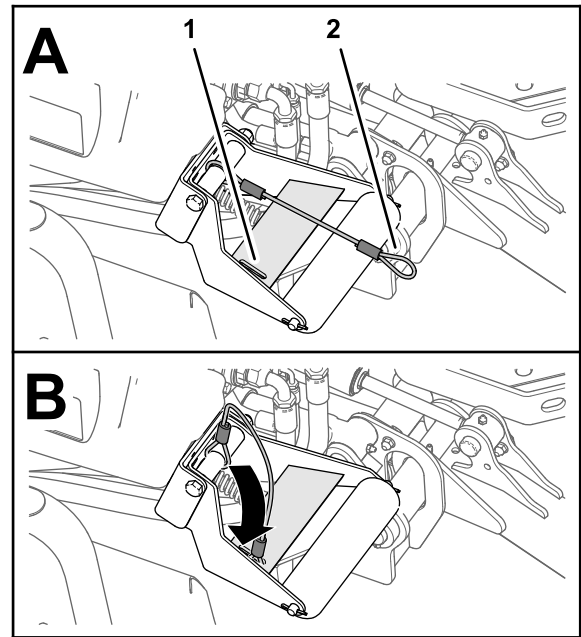

Figure 27
4. With the cutting units lowered, slip the loop of the lanyard into the slot in the reinforcement plate of the roller support (Figure 27).